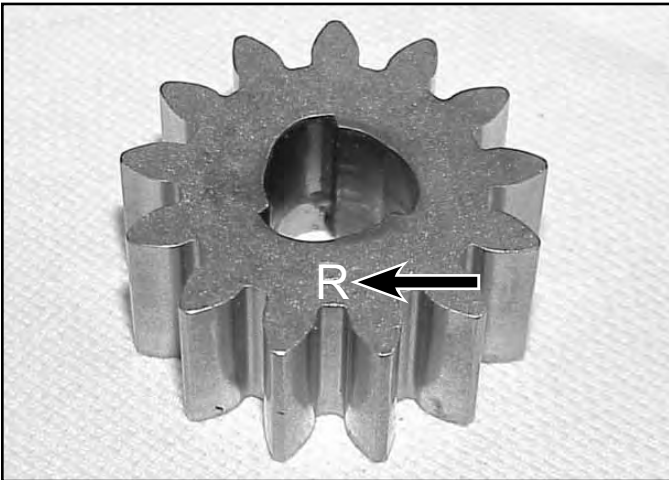

Fig 088
7. The wheel pinion is marked with an R and L for right and left. Identify right and left from the operator's position (Fig. 088). On the right side, the R should face outward. The letter L should face outward on the left side. If the wheel pinions are reversed, the wheels will not drive.